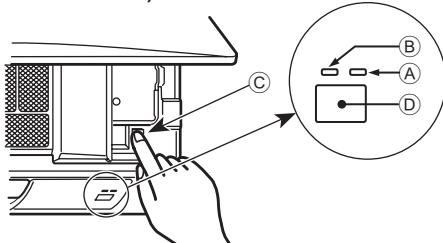
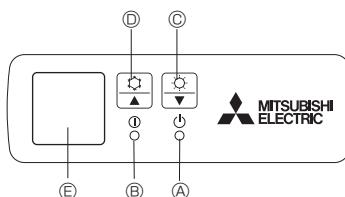

Fig. 4-1
Fig. 4-2
[Fig. 4-1] ① DEFROST/STAND BY lamp (Orange)
② Operation lamp (Green)
③ Emergency operation switch (cooling/heating)
④ Receiver
[Fig. 4-2] ⑤ DEFROST/STAND BY lamp
⑥ Operation lamp
⑦ Emergency operation switch (heating)
⑧ Emergency operation switch (cooling)
⑨ Receiver